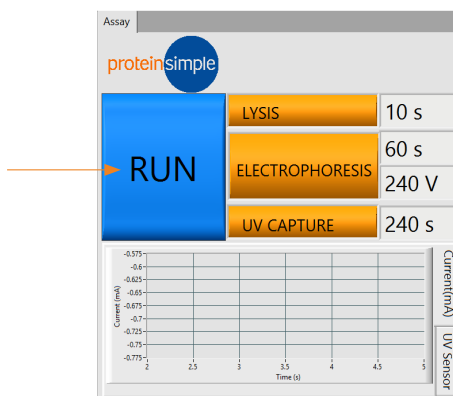

Figure 5-14: Location of the Run button on Milo.
- 10 Immediately close Milo's lid and press the **Run** button on the touch screen to initiate the run (Figure 5-14).